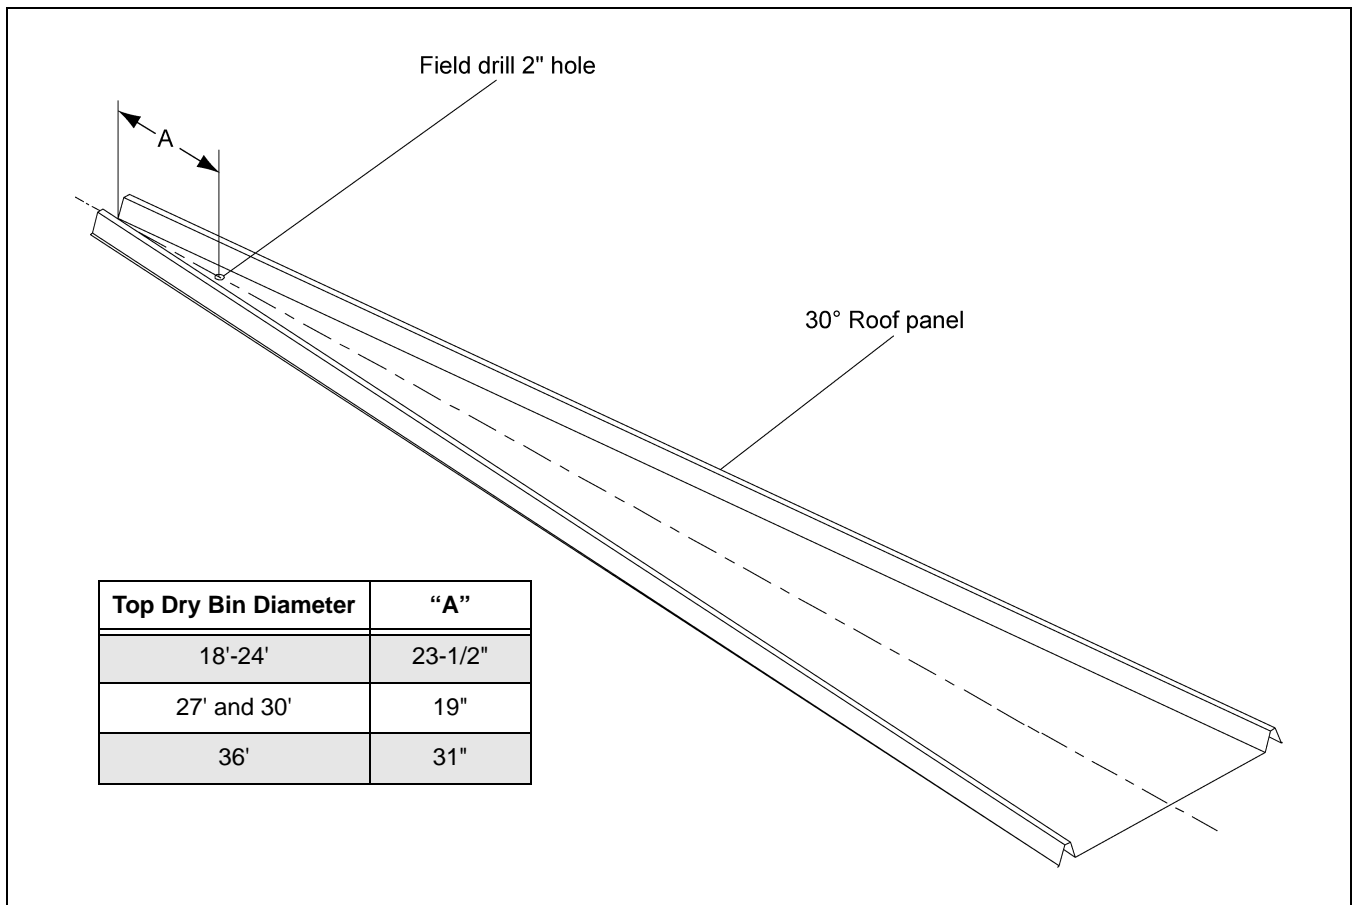
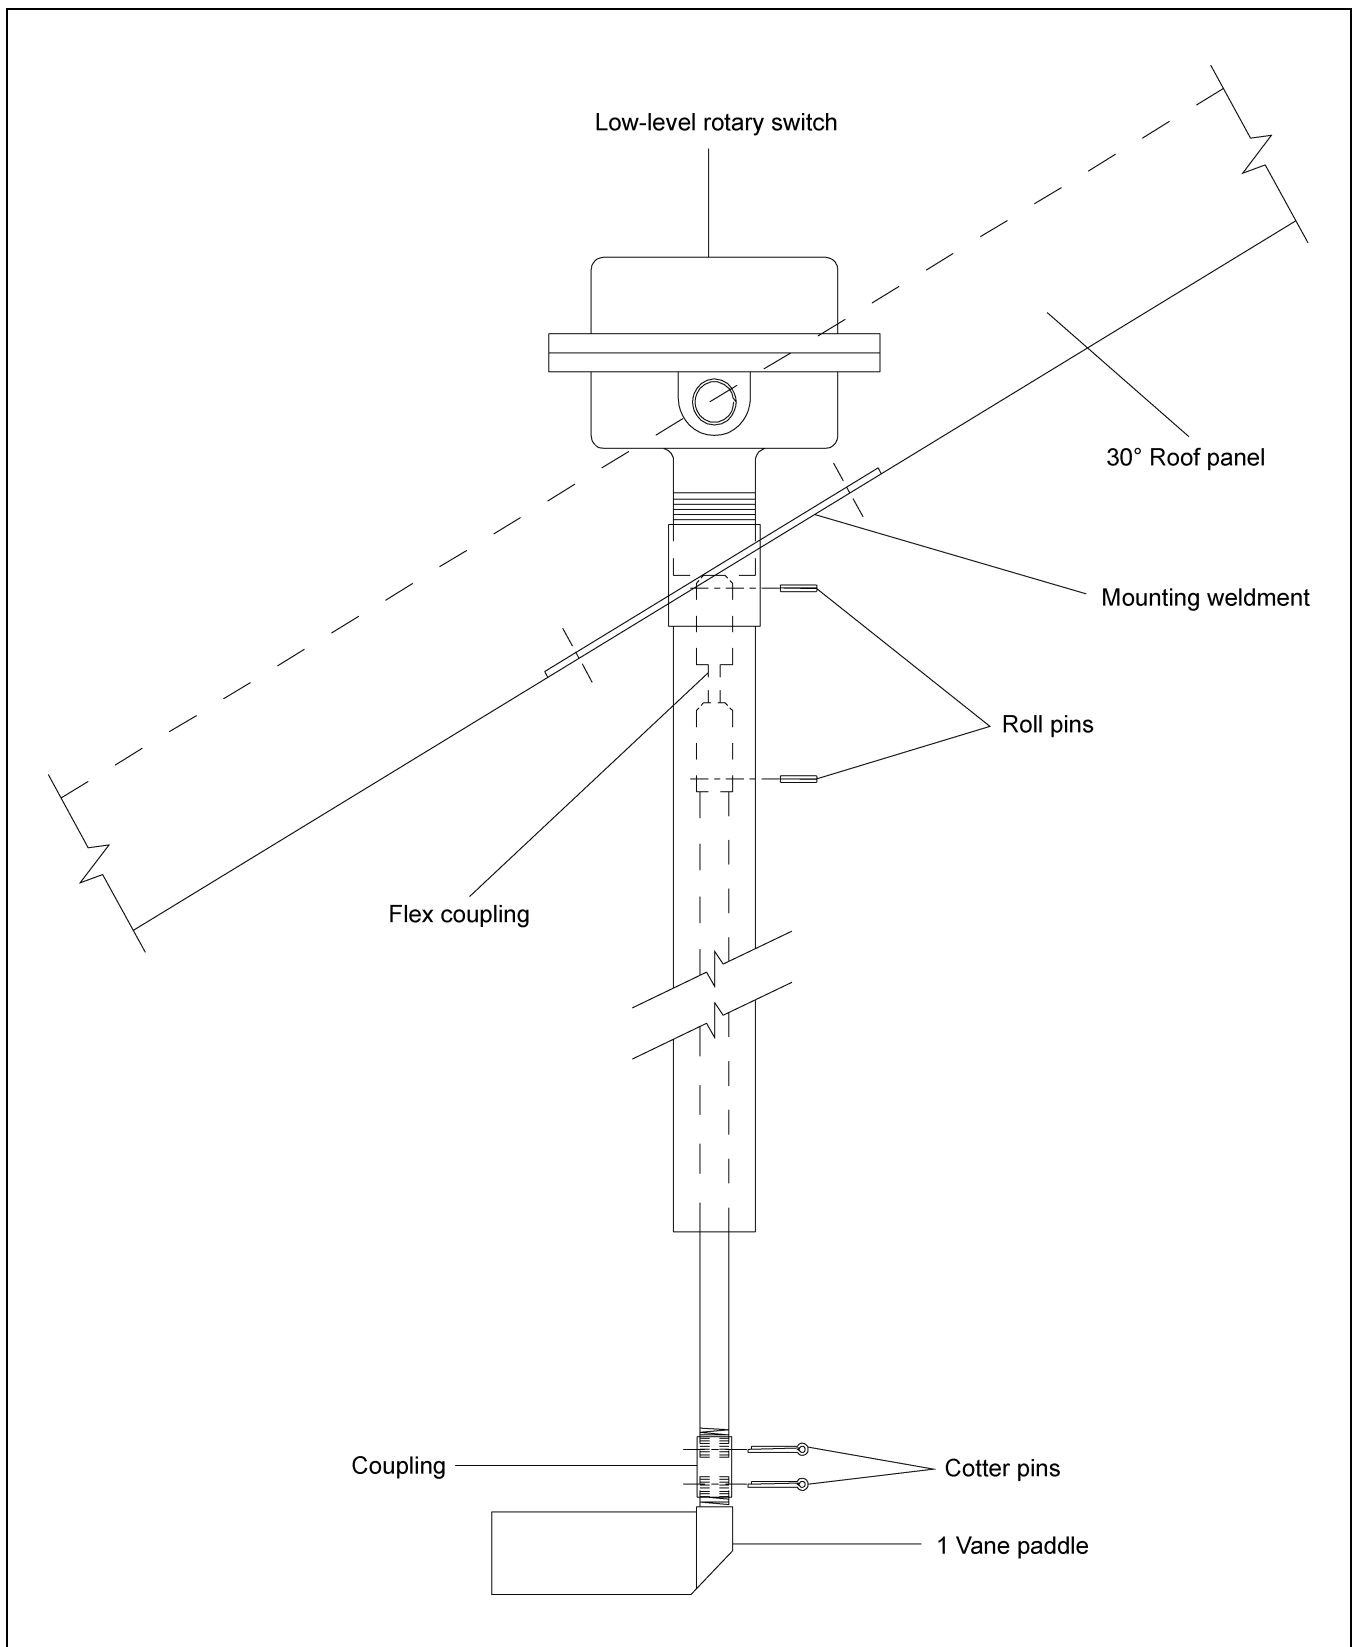
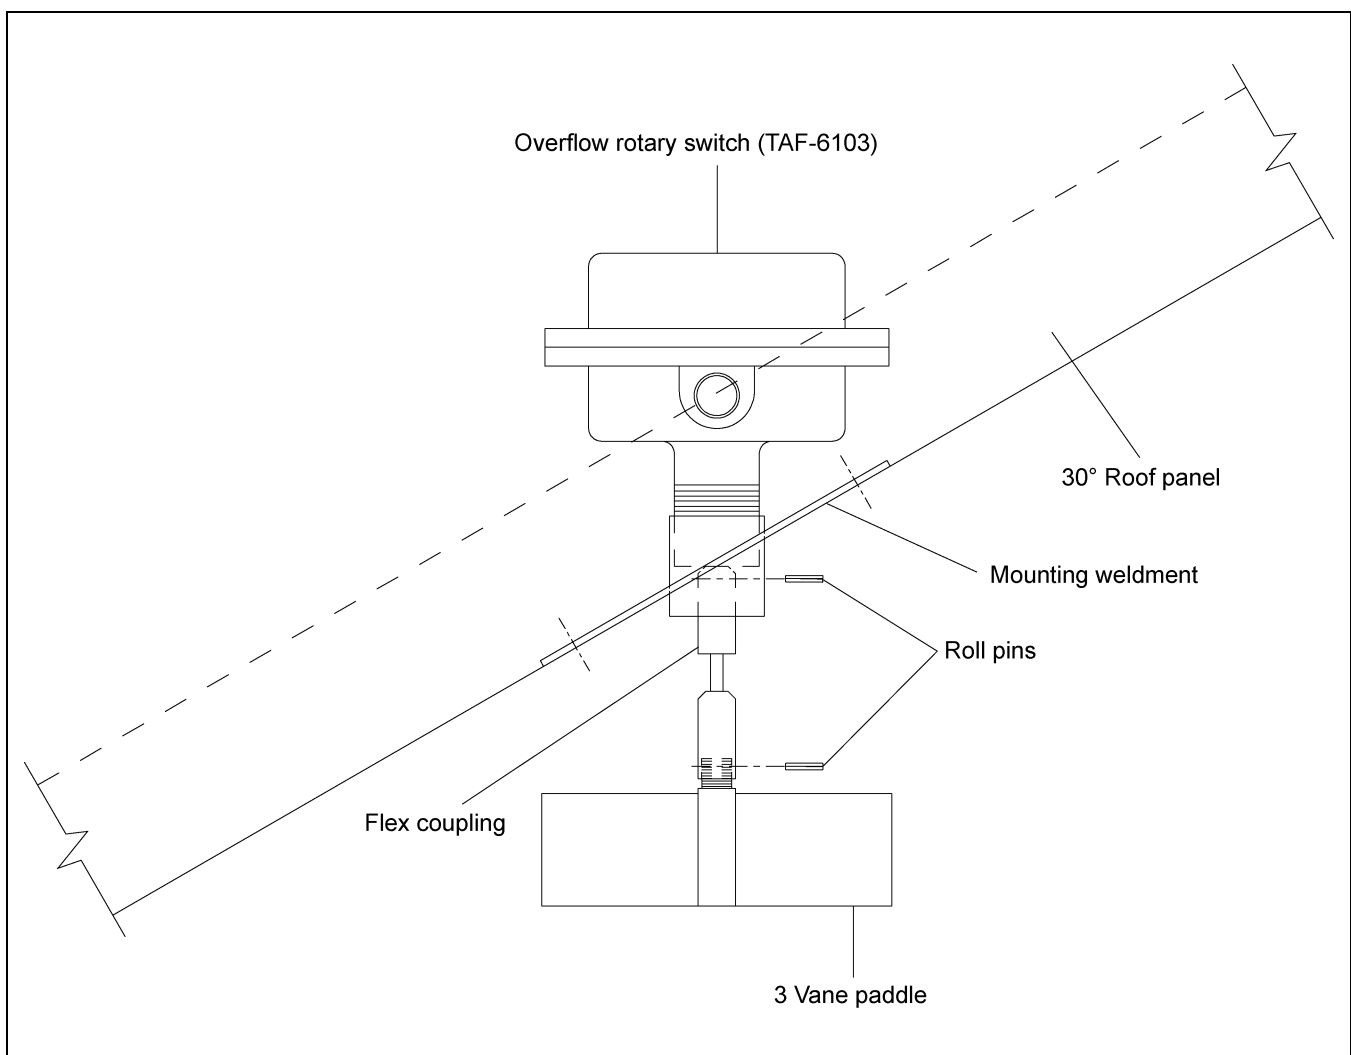

Figure 3T
Figure 3U
Figure 3W
1. Drill a 2" diameter hole through the roof panel at the location shown in Figure 3T. See component placement on Page 11 for proper placement in relation to fill auger.
2. Use the mounting plate as a pattern and drill four (4) 3/8" holes through the roof panel at the switch location so the plate can be bolted to the roof.
8. Attach the shaft extension according to Figure 3U on Page 29.
12. Attach the 1 vane paddle to the flex coupling as shown in Figure 3U on Page 29.
1. Drill a 2" diameter hole through the roof panel at the location shown in Figure 3T on Page 28. See component placement on Page 11 for proper placement in relation to fill auger.
8. Attach the 3 vane paddle to the flex coupling as shown in Figure 3W.